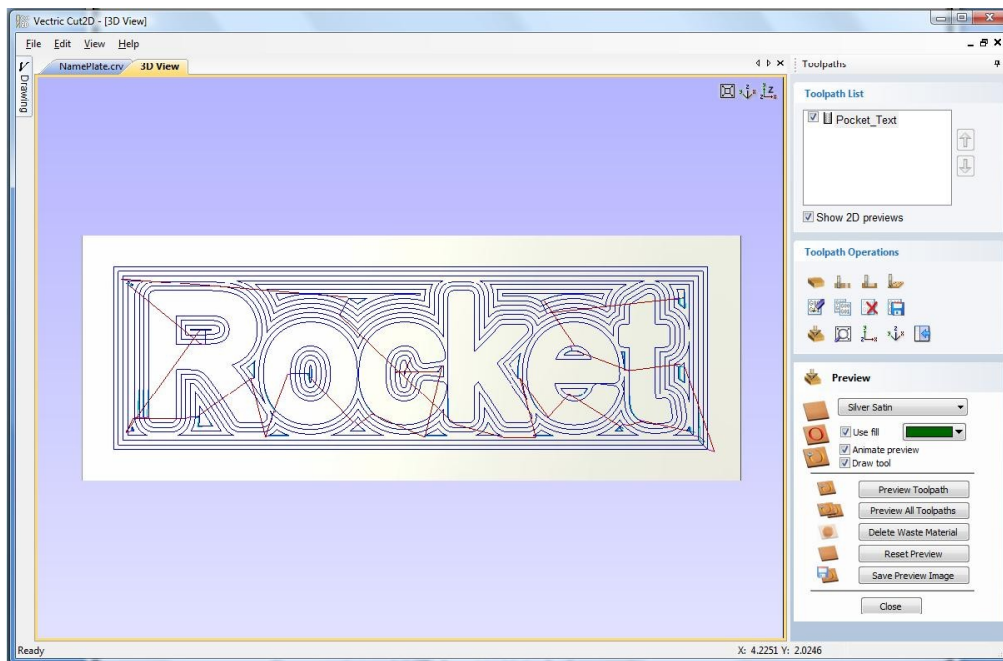

Figure 15. 3D View showing Toolpath & Material
11. Click the **Calculate** button and the resulting toolpath will automatically be drawn in the **3D view** and the **Preview job** form opened, as shown below in Figure 15.